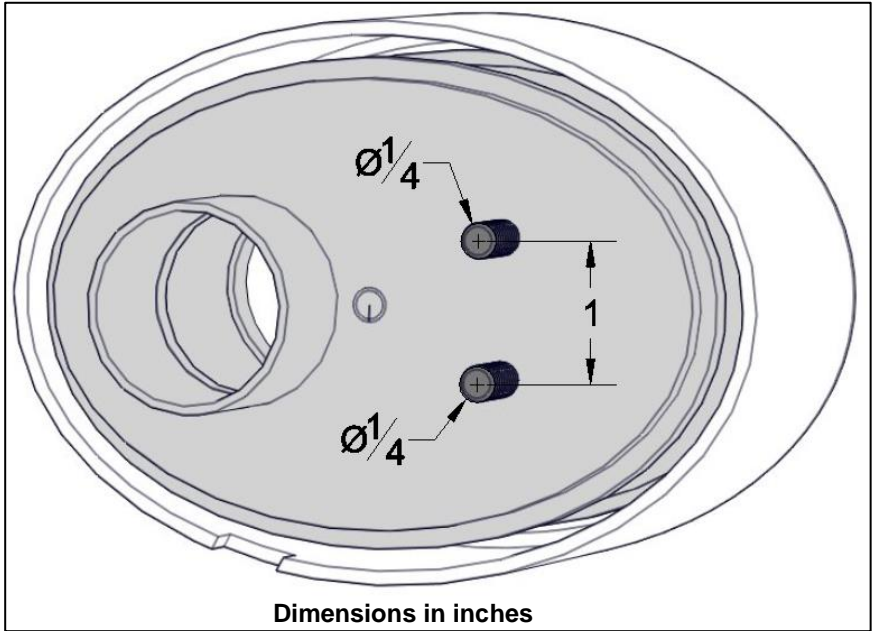

Figure 6 – Filter plate mounting stud dimensions
- Secure the remote air filter assembly in the selected location using an appropriate bracket (not supplied) (Figure 6).